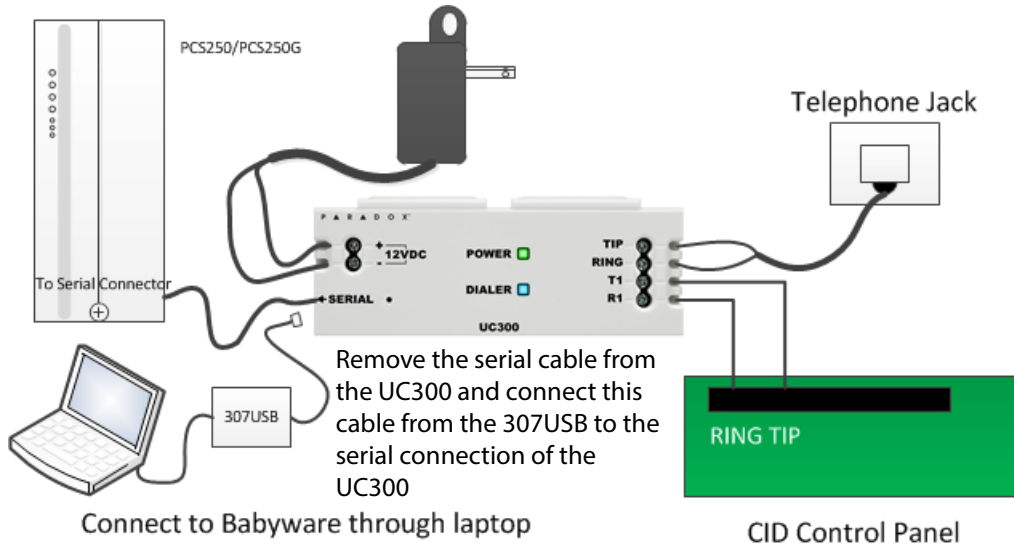

Figure 5 – Connecting the UC300 with a PCS250/PCS250G
6. Disconnect the cable from the UC300 Serial port and connect the IP150/UC300 to PCS250/PCS250G cable from the 307USB to connect to your laptop. This will allow you to configure the setup using BabyWare. See *Figure 5*